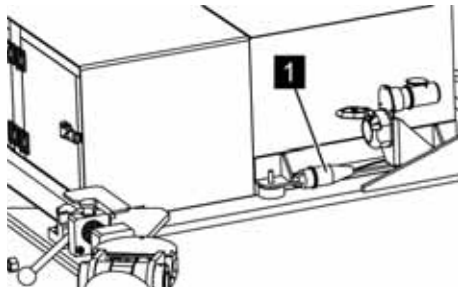

Fig. 43: Power connection
- Disconnect the plug (Fig. 43/1) from the extension cable or press Emergency Stop.